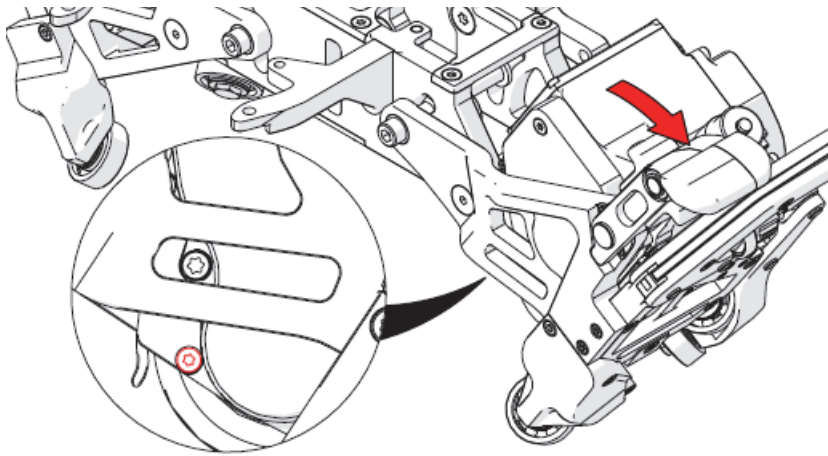

Figure 2-5 Removing Torx screw from bottom of drive wheel guard
3. Engage the motor engage handle, revealing a Torx screw near the bottom of the drive wheel guard (see Figure 2-5 on page 87).